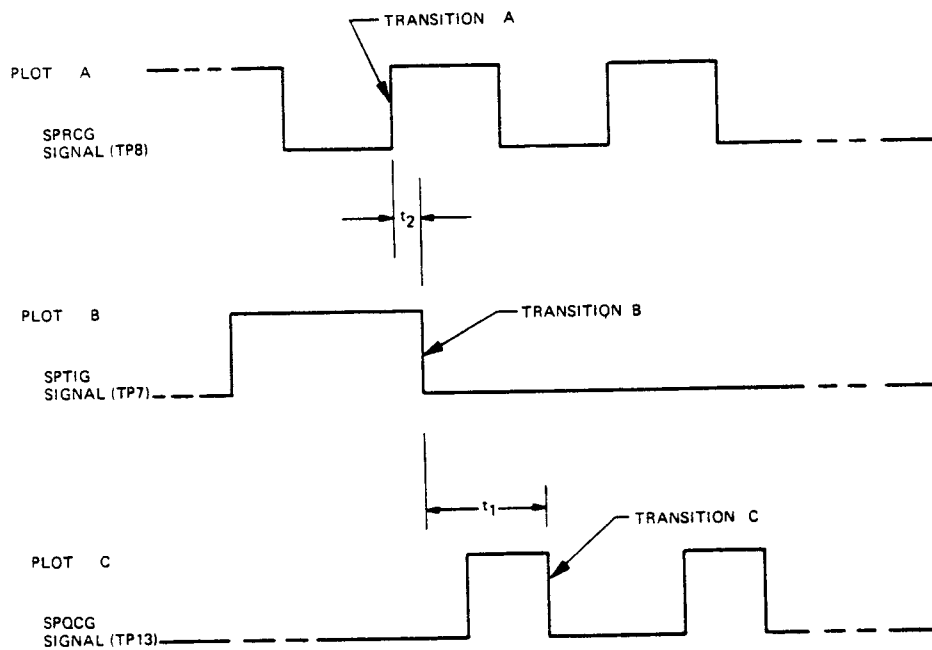
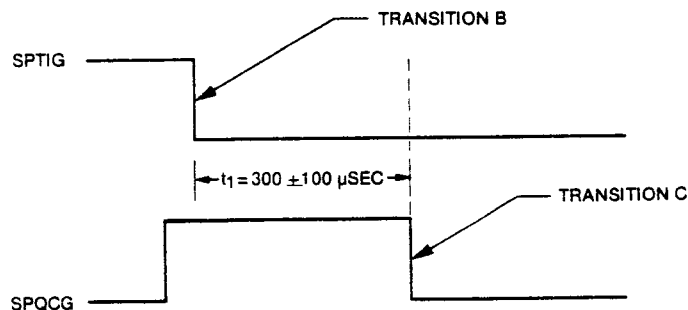

Figure 6-13. SPRCG, SPTIG, SPQCG Signals, Repetitive Restore Mode
Figure 6-14. Correct Relationship Between SPQCG and SPTIG Signals, Expanded
This adjustment is used to correctly establish the relationship between the trailing edge of the Quadrature Clock (SPQCG) with respect to the trailing edge of the Index Logic Signal (SPTIG) as shown in Figure 6-13.
- (1) Observe the relative position of the high-to-low transition of signal SPQCG on Channel 2 (TP13) in relation to the high-to-low transition of signal SPTIG on Channel 1 (TP7). The waveform relationship must be approximately as shown Figure 6-13, Plots B and C.
- (2) Connect Channel 2 test probe to TP8. Observe SPRCG on Channel 2 in relation to the high-to-low transition of SPTIG (see Figure 6-13, Plots A and B).
- (3) The high-to-low transition of SPTIG (Transition B of Figure 6-13) should occur at or after the low-to-high transition of SPQCG (Transition A of Figure 6-13), i.e., time  $t_2$  should be greater than or equal to zero seconds.
- (4) If the requirements of Steps (1), (2), and (3) are not satisfied, perform the adjustment procedure outlined in Paragraph 6.9.8.3, then repeat the foregoing steps prior to continuing this procedure. If adjustments to satisfy the above requirements cannot be made, replacement of position transducer scale may be necessary.
- (5) Change the oscilloscope settings established in Paragraph 6.9.8.1, as follows.
- (6) Observe the first high-to-low transition of SPQCG (TP13) with respect to the high-to-low transition of SPTIG (TP7) signal; see Figure 6-14.
*The high-to-low transition of SPQCG [Transition C of Figure 6-14] should occur after a time delay [ $t_1$ ] of 200  $\mu$ sec or greater, after the occurrence of high-to-low transition of SPTIG [Transition B of Figure 6-14]. See Figure 6-13, Plots B and C, and Figure 6-14.*
- (1) Adjust Index Balance potentiometer R98 to position the trailing edge of SPTIG (TP7) to occur prior to the trailing edge of SPQCG (TP13) as shown in Figure 6-13.
- (2) Change the oscilloscope settings established in Paragraph 6.9.9.2 as follows.
- (3) Continue to adjust potentiometer R98 so that the high-to-low transition of SPTIG occurs approximately 200  $\mu$ sec or more before the high-to-low transition of SPQCG as shown in Figure 6-14.